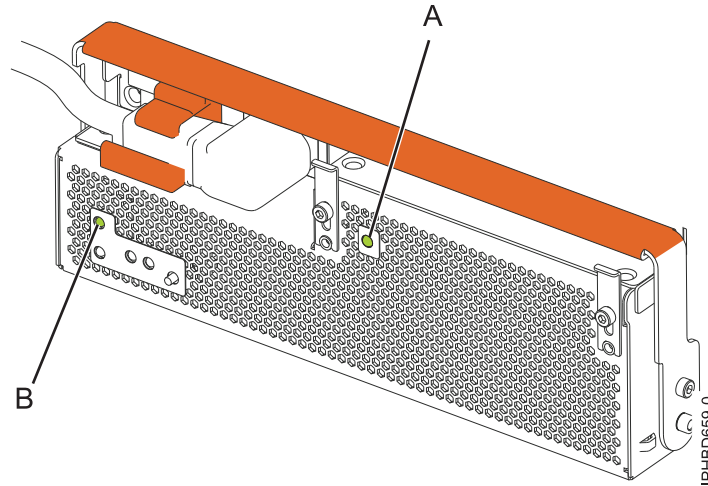

Figure 20. Expansion unit ac power and OCA power LEDs
9. Note the state of the green ac power in **(A)** and Offline Converter Assembly (OCA) power **(B)** light-emitting diodes (LEDs) shown in Figure 20 on page 20, and do one of the following actions, as applicable: